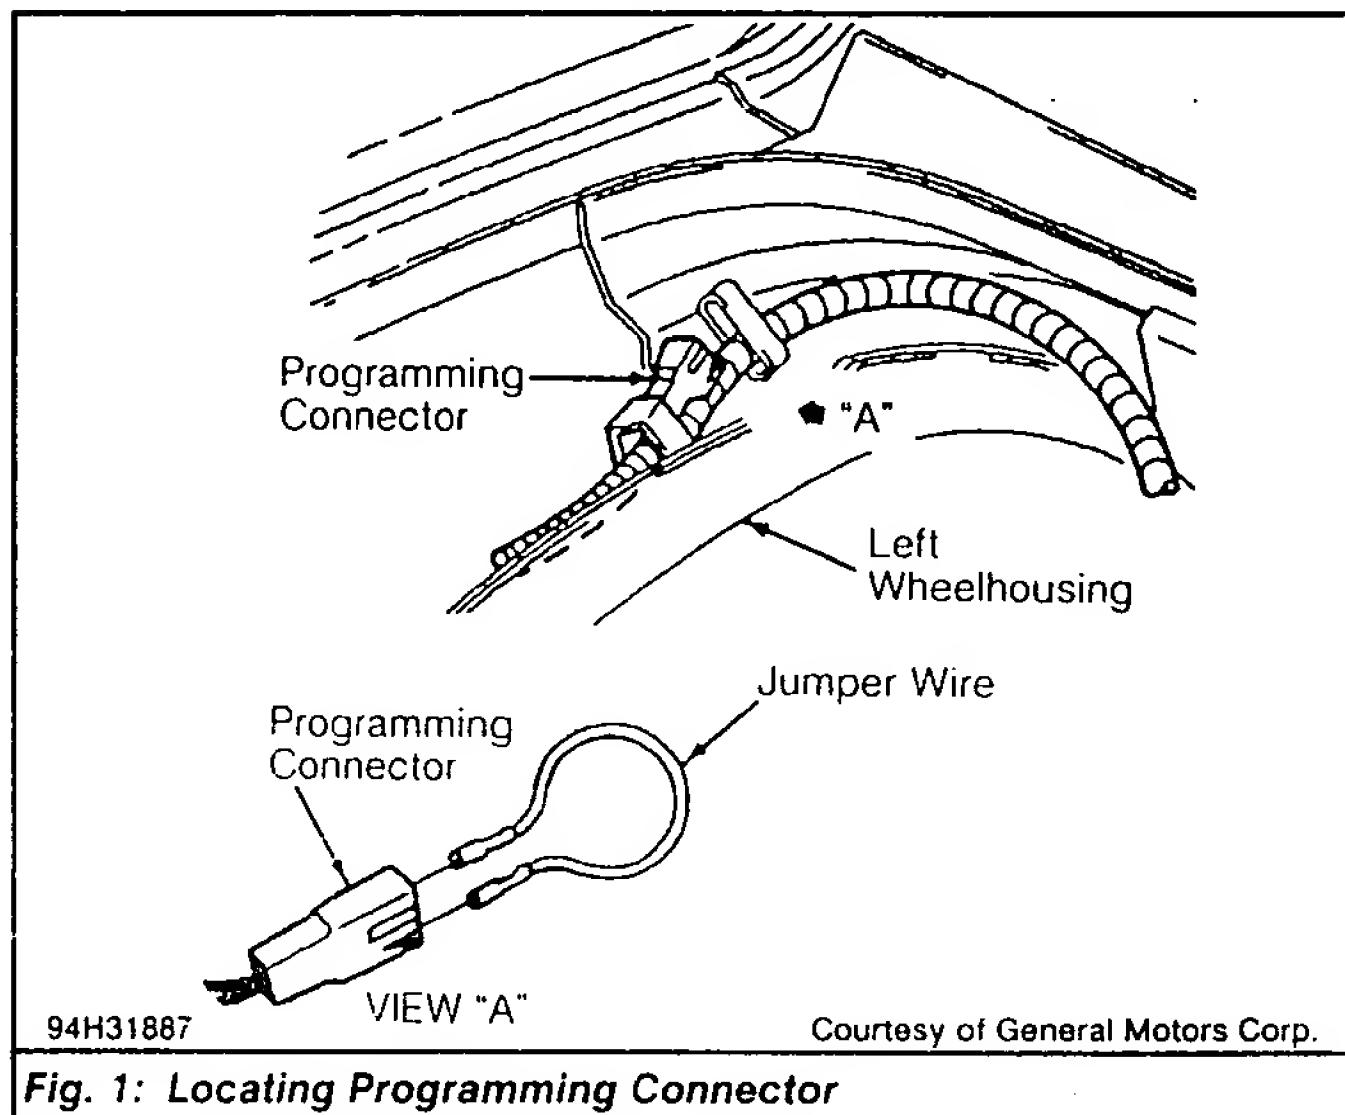

Fig. 1: Locating Programming Connector
- 2) During programming of keyless entry module receiver, feedback is provided by receiver by cycling door locks. To program a keyless entry module receiver to match the VAC of 1-2 transmitters, use a jumper wire and jumper 2 terminals of keyless entry module program connector. Program connector is located in front of left rear inner wheel panel, inside trunk. See Fig. 1.